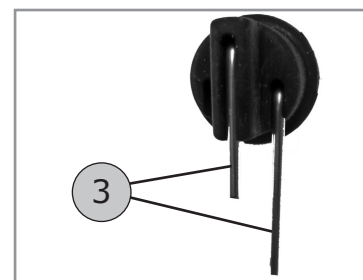

Figure 37
6. Mount the new sensor in reverse order, check the pin's (3, figure 37) orientation. The sensor **must** be placed so that its pin's (3) is placed **vertically down** in the water heater tank.